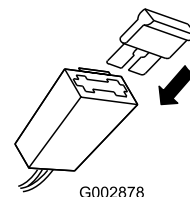

Figure 39
2. Replace the fuse in the fuse holder (Figure 39).